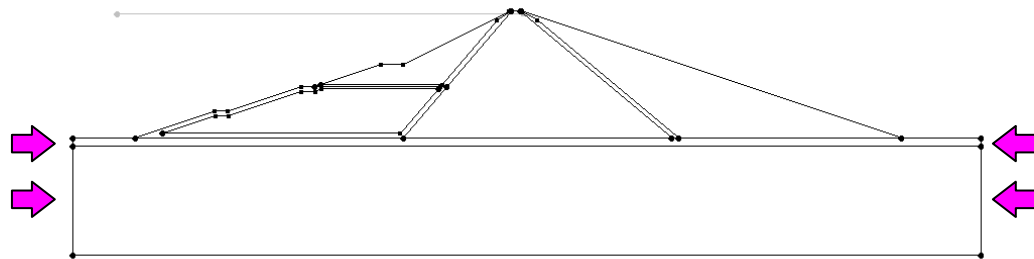

Figure 8. Closing the bottom zone polygons.
2. Create four arcs, two on the left and two on the right of the model by clicking on the ends of the existing arcs to connect the nodes, as shown in Figure 8 below.